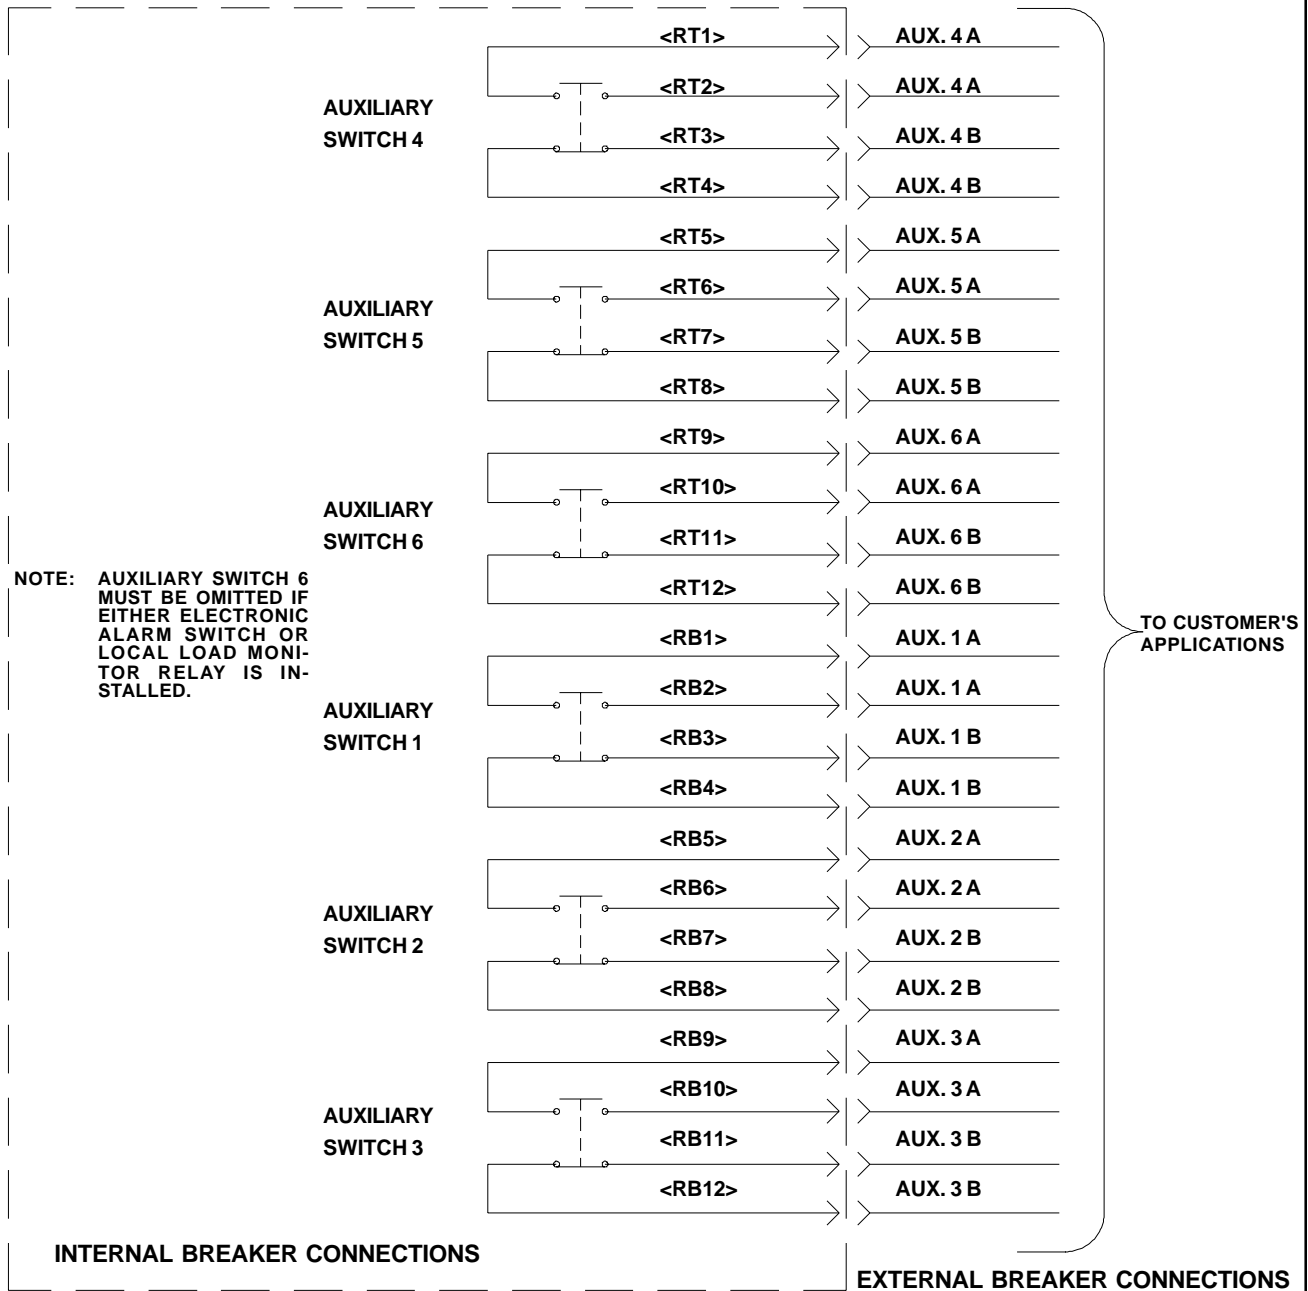

Figure 10
- 18. Add third and fourth cable tie mount and cable tie (See Figure 10).
- 25. Connect the terminals to the proper terminal block locations (See Figure 10, Page 7).